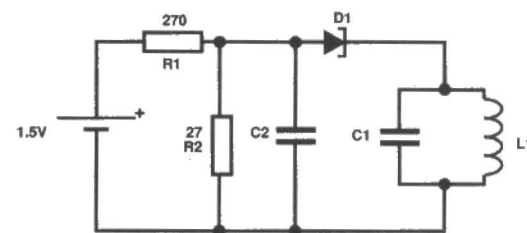

**Fig.6 The energy hill created by magnets**
obstacle which needs a certain energy, according to classical physics, to pass. A better analogy might be the magnets in Figure 6. Roll the magnet slowly and it will be repelled by the fixed magnets. It needs a certain kind of kinetic energy to overcome the repulsion, so there is a kind of energy 'hill' that it has to pass.
As simple engineering bods who like nothing better than to solder a circuit or two, we needn't concern ourselves too much with the physics. The static characteristic of a tunnel diode (Figure 6) tells us all we need to know. The forward characteristic is similar to that of an ordinary diode, except for the all important hump at about 0.1V. And the really exciting portion of the hump is the downward slope between about 0.1V and 0.2V - here an increase in voltage causes a decrease in current, so the diode appears to have a negative resistance.
**T**he construction of this PCB is rather fiddly and great care should be taken. All the components except the power input socket (SK2) and the RS232 socket (SK3) are mounted on the PCB. This is a double sided board, about 210x88mm in size, which is available from the ETI PCB service. Note that the holes in the PCB are not plated through. The PCB overlay is shown in Figure 6. Due to the complexity of the PCB, the construction should be carried out in the following order.